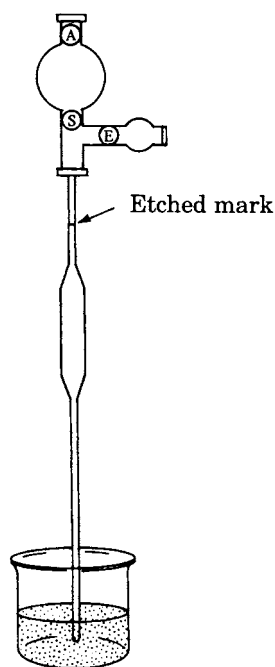

Figure 2.3
- Carefully insert the pipet end into the Spectroline pipet filler (Figure 2.3). The end should insert easily and not be forced.
1. Obtain approximately 50 mL of distilled water from your instructor. Record the temperature of the water (11).
2. Take a clean, dry 50-mL beaker; weigh to the nearest 0.001 g (12).
3. With a 10-mL volumetric pipet, transfer 10.00 mL of distilled water into the preweighed beaker using a Spectroline pipet filler (Figure 2.3). (Before transferring the distilled water, be sure there are no air bubbles trapped in the volumetric pipet. If there are, gently tap the pipet to dislodge the air bubbles, and then refill to the line.) Immediately weigh the beaker and water and record the weight to the nearest 0.001 g (13). Calculate the weight of the water by subtraction (14). Calculate the density of the water at the temperature recorded (15).